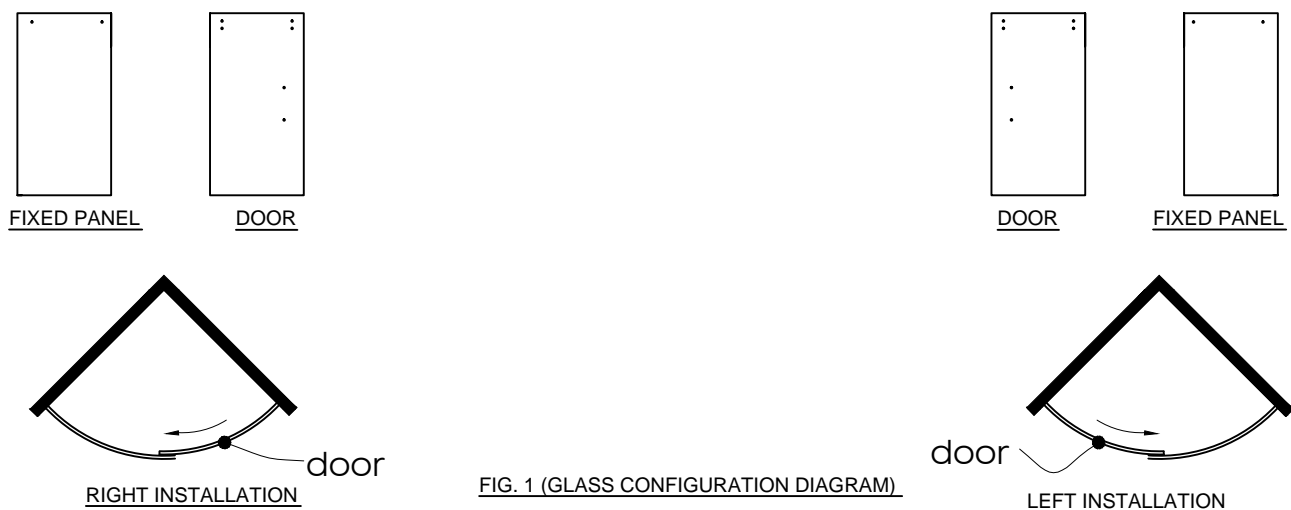

FIG. 1 (GLASS CONFIGURATION DIAGRAM)
1. Arrange the glass according to the configuration you've chosen from page 4. [SEE FIG.1]